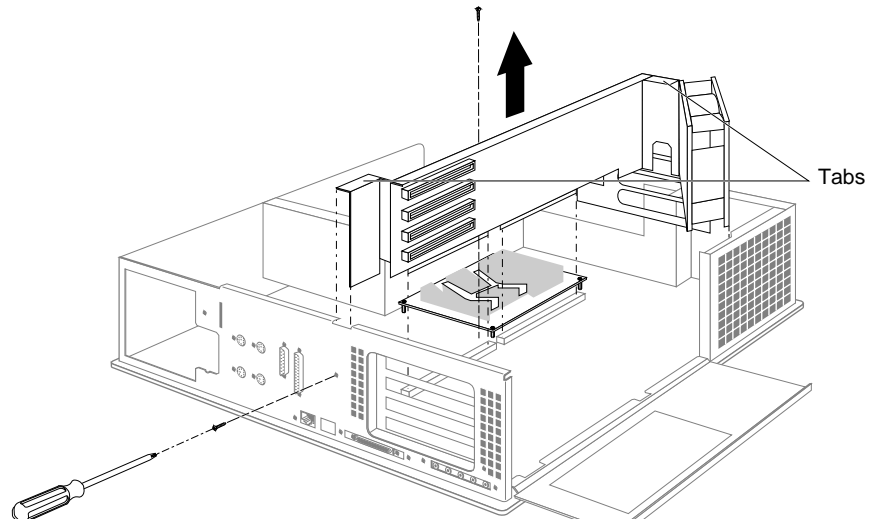

Figure 2-9 Removing the Backplane
12. Remove the two screws that fasten the EISA/GIObus backplane to the chassis, as shown in Figure 2-9. Pull the backplane straight up out of the system. Pull on the metal tabs indicated in Figure 2-9.